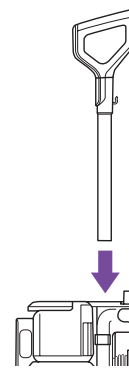

fig. 1
1. Insert handle into the top of unit until it clicks into place (**fig. 1**).